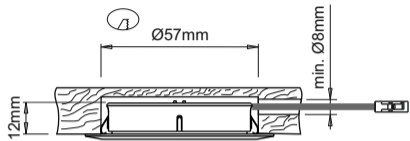

Fig 1
- To flush mount the device, bore a  $\varnothing$  57mm hole  $\geq$  12mm deep on the installation surface and then, if necessary, bore a  $\varnothing$   $\geq$  8mm exit hole for the power supply cable as illustrated in figure 1.